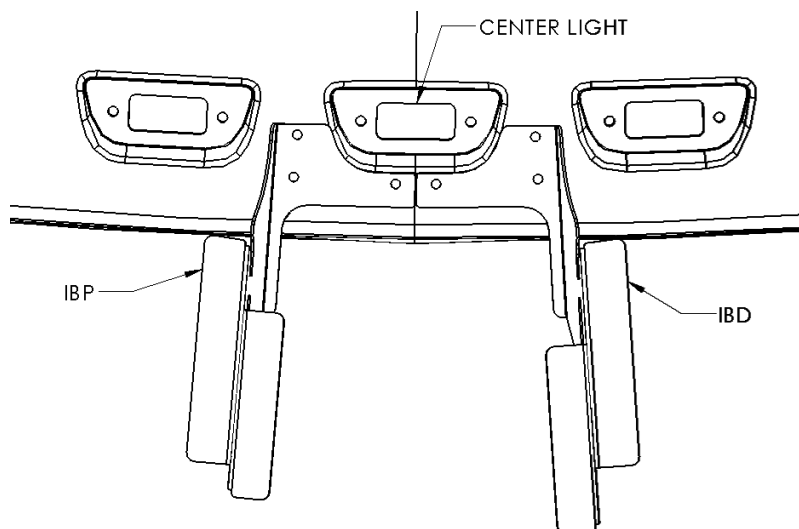

Figure 4
- c. Attach Driver Visor Sub-assembly to Passenger Visor Sub-assembly using the (2) supplied $\frac{1}{4}$ -20x $\frac{3}{4}$ Hex Head bolts with (4) Flat Washers and (2) Locknuts
- a. Align the Inner Brackets around/below the center light (see Figure 4).